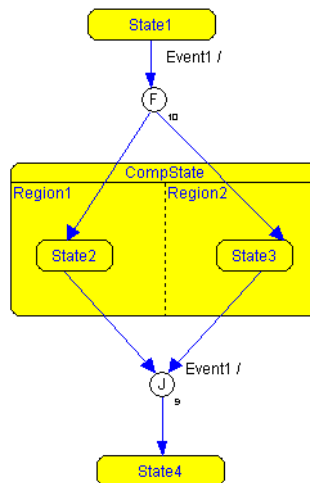

Figure 66: Example of fork and join states
- 3 Draw a transition from the inserted pseudo state to the state that is to be the default state, in the same way as you draw transitions between states. See *Figure 66*, page 79.
- 3 Now you can draw transitions from states to the fork state, and from the join state to states. See example in *Figure 66*, page 79.